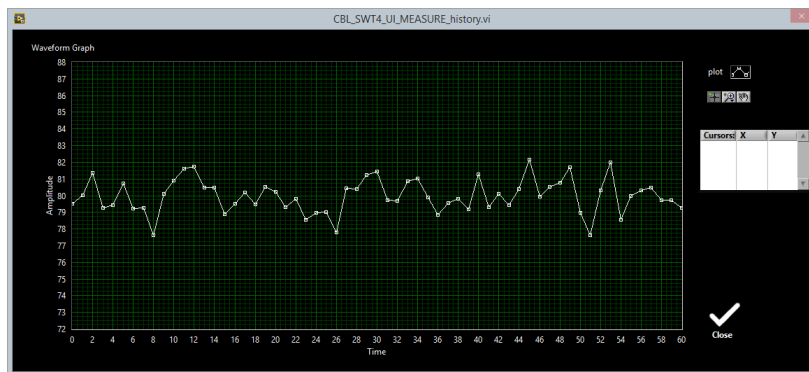

Figure 17: historical values detail
- a. History: press this button to enlarge the historical values graph (Figure 17)